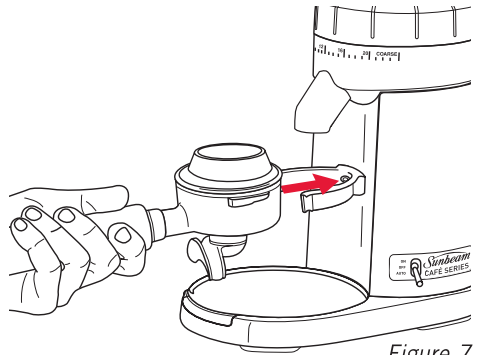

Figure 7
- To grind coffee, press the group handle against the button located in the centre of the group handle cradle, see Figure 7.